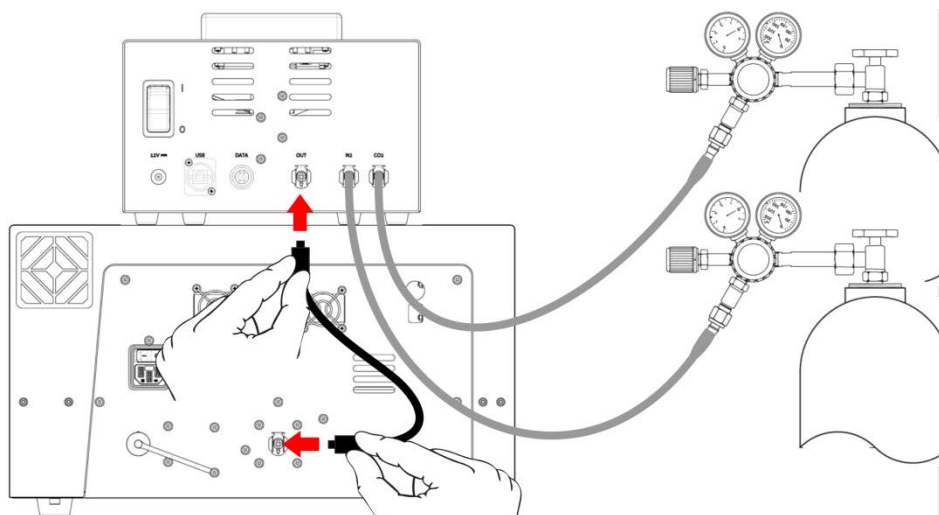

Figure 28
4. Connect the outlet port (OUT) of the gas control module to the inlet port of the Infinite 200 PRO using the provided short tube with quick connectors on both ends (see Figure 28, below).